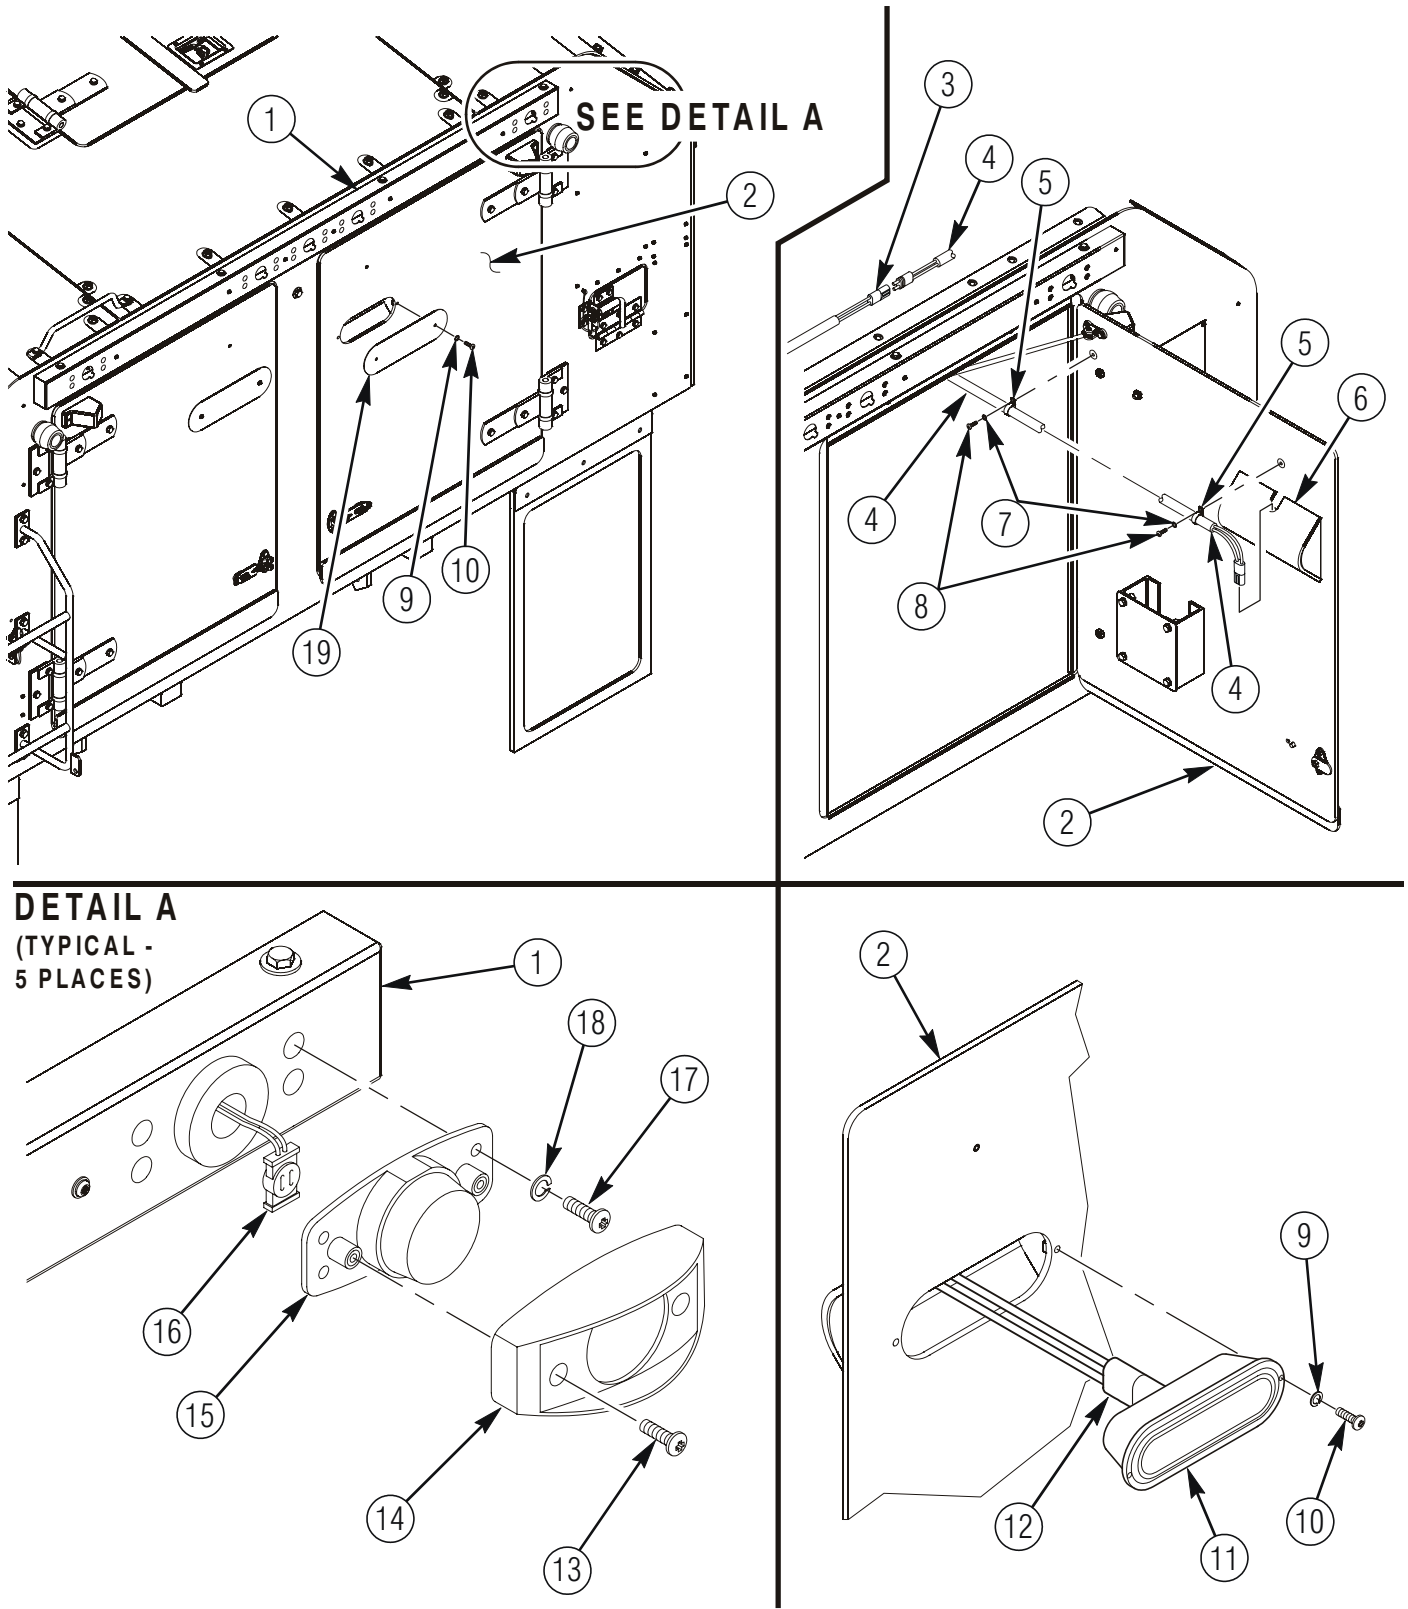

Figure 9.
9. Connect wiring harness connector (16) to lamp base assembly (15). Ensure positive to positive and negative to negative installation. Refer to figure 9. Repeat procedure for four remaining rear lamps.
10. Install lamp base assembly (15) on lightbar panel assembly (1) and secure with four 4397012-076 screws (17) and 4397004-005 lockwashers (18) as shown in figure 9. Tighten screws (17) to 59 lb-in. Repeat procedure for four remaining rear lamps.
11. Install lamp cover (14) and secure with two screws (13) as shown in figure 9. Repeat procedure for four remaining rear lamps.
- a. Remove two screws (10), lockwashers (9), and rear light cover panel (19) from rear door assembly (2) as shown in figure 9. Retain all fasteners for installation and return cover panel (19) to stock.
- b. Install lamp connector end of 3593651 right hand stop lamp extension harness (4) or 3593652 left hand stop lamp extension harness (4) through lamp housing (6) on front side of rear door assembly (2). Refer to figure 9.
- c. Plug extension harness connector (12) onto stop light (11) and install stop light (11) into rear door assembly (2). Secure stop light (11) with two screws (10) and lockwashers (9) as shown in figure 9. Tighten screws (10) to 59 lb-in.
- d. Remove two screws (8), lockwashers (7), and loop straps (5) from front side of rear door assembly (2). Retain all parts for installation. Refer to figure 9.
- e. Install two loop straps (5) around stop lamp extension harness (4) and secure to front side of rear door assembly (2) with two screws (8) and lockwashers (7). Tighten screws (8) to 41 lb-in. Refer to figure 9.
- f. Route stop lamp extension harness (4) as required, in order to connect to existing stop lamp harness connector (3). Secure stop lamp extension harness (4) with wire ties as required. Refer to figure 9.